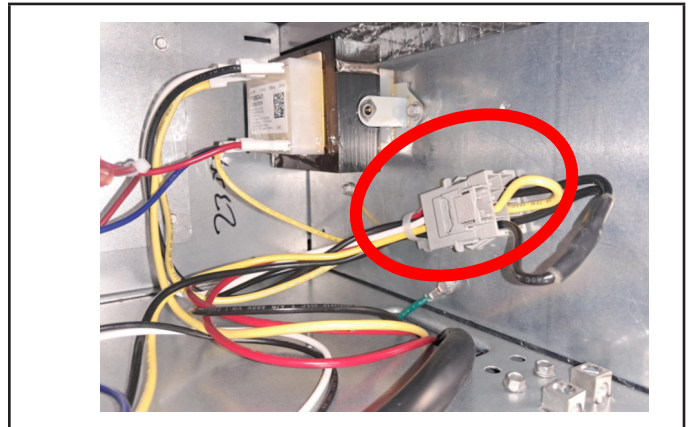

FIGURE 25. Converting Unit from 230VAC to 115VAC
- 2 - Unplug the 230V factory installed jumper plug harness from the 8-pin gray jack plug and discard. SEE FIGURE 25.